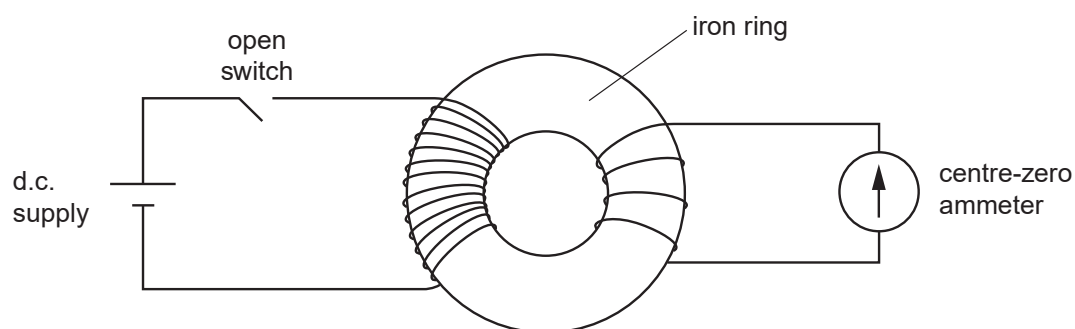

Fig. 8.1
- 5 Fig. 8.1 shows two coils of wire wound on an iron ring. One coil is connected in series to a switch and a d.c. supply. The other coil is connected to a very sensitive centre-zero ammeter.
At first the switch is open, as shown in Fig. 8.1.